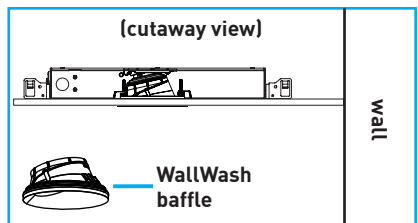

Fig.37
**Wallwash Fixtures:** Baffle requires alignment to achieve proper wallwashing. Ensure that the baffle and trim are oriented to direct light perpendicular to the washed wall "Fig.37".